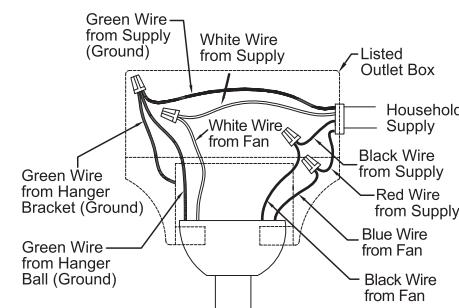

Figure 15B
2. After connections have been made, taking care not to pinch the wires and put the white and green leads to one side and the black leads towards the other side, the connection should be turned upward and carefully push leads into the outlet box. The wires should be spread apart with the grounded conductor and the equipment-grounding conductor on one side of the outlet box and the ungrounded conductor on the other side. (Fig. 15B)